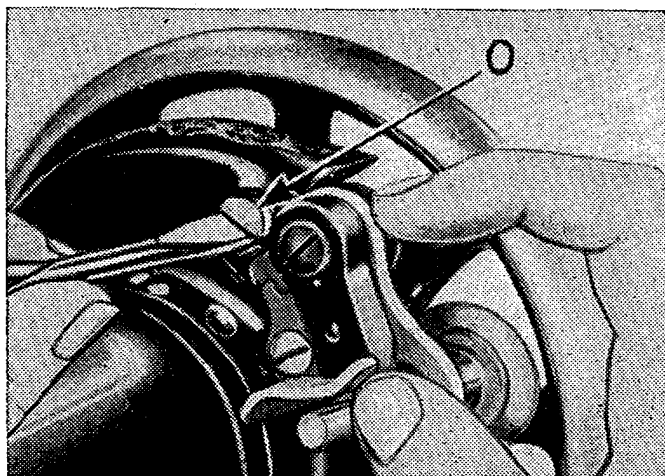

Fig. 14 Adjusting the Bobbin Winder
to wind the bobbin, loosen the screw (0, Fig. 14). Press the winder lightly until the rubber ring is in contact with the ledge of the balance wheel and keep it in this position until screw (0) has been